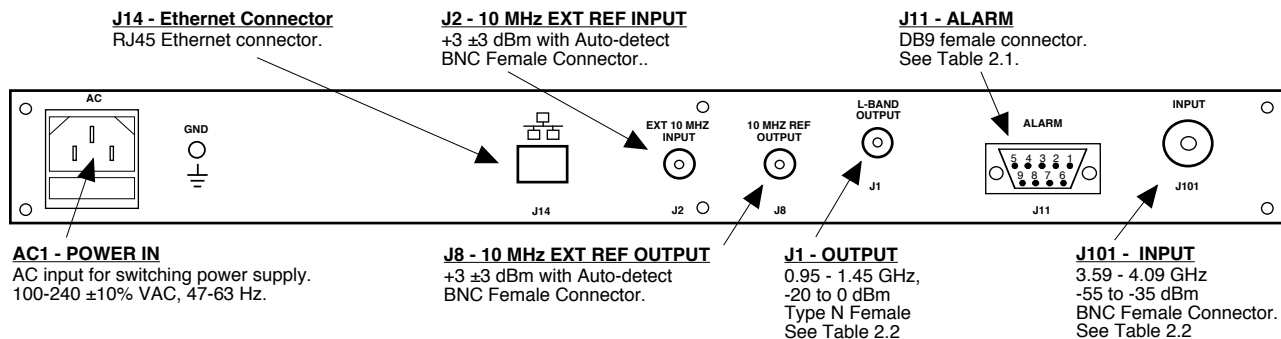

FIGURE 2.1 3116-35 Rear Panel I/O's
Figure 2.1 shows the input and output connectors on the rear panel.
1. Connect a -55 dBm to -35 dBm signal to RF IN, J101 (Figure 2.1).